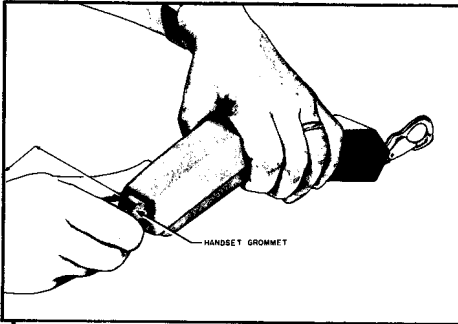
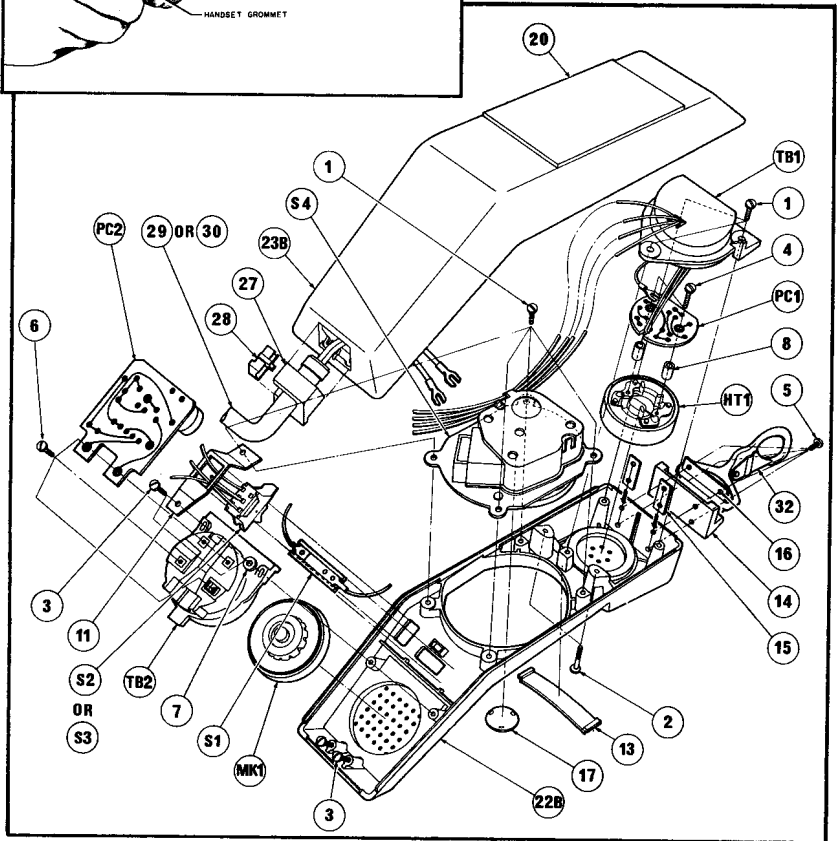
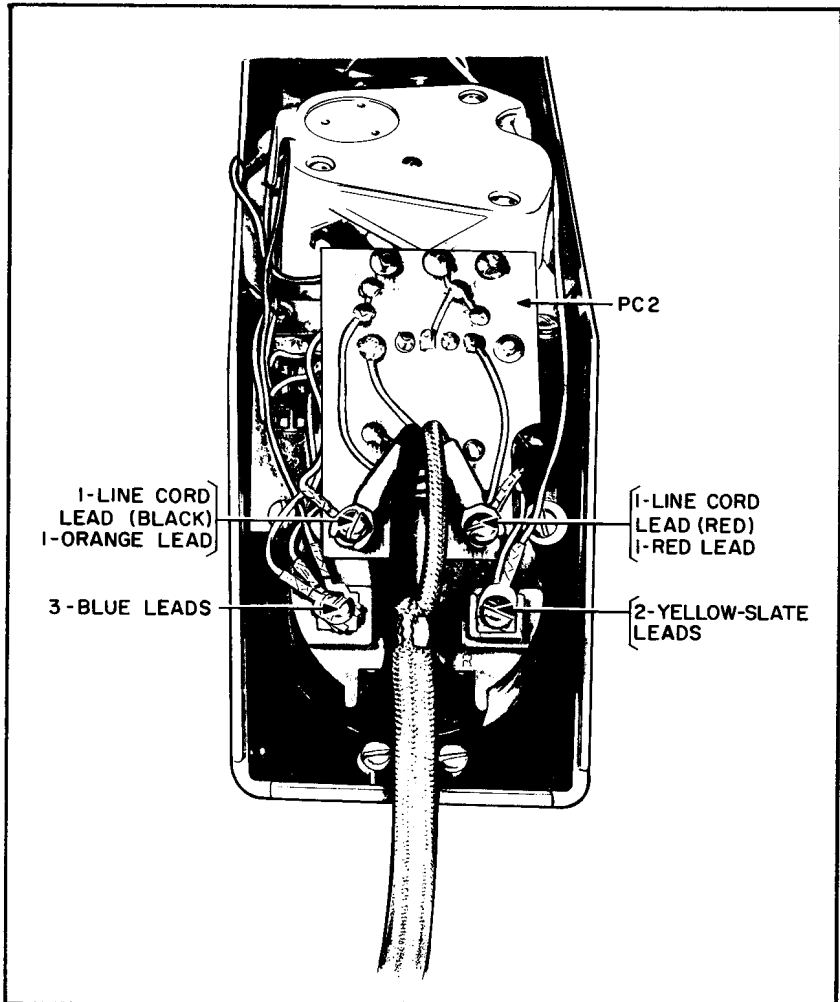

FIGURE 8. Removal of Handset Grommet
FIGURE 9. QSE4 Type Handsets—Assembly of Parts
FIGURE 10. QSE4 Type handset—Cover Removed—Showing Connection of Line Cord and Assembly of PC2 (P0500416) For Conversion Purposes
4.02 Disassembly of handset (see Figures 8 and 9 foldouts) (circled numbers refer to Figure 9 foldout):
a. To remove the card retainer window (13), insert the tip of a 16750 L3 releaser (a paper clip may be used) into the small slotted hole at the edge of the window. Ensure that the tip does not enter the hole by more than one-eighth of an inch, as an underlying screw may hinder the lateral motion of the releaser. Apply a slight lateral pressure to the handle of the releaser. The housing projection provides a fulcrum and this will bow the window upward so that its edges may be grasped with the fingertips of the other hand to spring it out.
b. Remove the handset line cord grommet (27) and (28), by turning the handset face down and pushing the cord into the grommet to release the pressure on the inside of the grommet, then exerting a lateral pressure toward the rocker switch and an upward pressure (while retaining the lateral pressure) until the grommet comes out of the housing (see Figure 8). This grommet is in two pieces.
c. Once the grommet has been withdrawn, two screws (3) are exposed. Loosen these two screws by about three-sixteenths of an inch only, as it is not desirable or necessary to remove them.
d. Free (do not remove) the two captive screws (2) in the card retainer well. Loosen the receiver end, then slide the smooth (back) half of the handset housing back to release this section from the slotted screw holes.
c. Remove the four mounting screws (1) and loosen rocker switch.
- b. Disconnect and replace the line cord, ensuring that the cord is properly dressed in the housing (see Figure 10 foldout).
- b. Remove the four screws (5) and remove the two hook plate retainers (15) and the hookstop (14).
e. Slide the grommet (27) and (28) into the rectangular hole in the end of the handset housing, with the side ribs of the grommet sliding into place on the inside face of the cover. Then pull the line cord to ensure that the grommet is securely in place.
4.10 To convert QSE4A Type to QSE4B Type (see Figures 9 and 10 Foldouts):
- b. Remove the two screws (6) which fasten the line cord leads and the red and orange leads to the transmitter cup terminals. Fold the red and orange leads to the sides of the handset.
- c. Remove slate-red lead from under dial plate screw (1), the white lead connected to terminal C of PC2, the yellow-slate lead from under terminal R on the transmitter cup (TB) and the red and blue leads from (TB2) to (S3).
- f. Carefully place new PC2 (P0500416) into position and ensure that the yellow-slate lead is dressed between the transformer on PC2 and the transmitter cup (TB) and that the transformer bobbin rests on the raised portion of the instrument section housing between the dial and pushbutton (S1). The bracket of the transformer should now be located over the pushbutton.
- h. Insert the two screws (6) through the mounting holes in PC2 and into the terminal screw holes in the transmitter cup.
- i. Ensure that the line cord is passed through the cord hole in the handset back cover (23).
- j. Connect the red lead, which was moved to one side of the handset in paragraph b. above, and the red lead of the line cord, to the terminal immediately above terminal "R" on the transmitter cup (see Figure 10). Tighten this connection.
k. Connect the orange lead which was moved to one side of the handset in paragraph b. above, and the black line cord lead to the other PC2 mounting terminal (rocker switch side) and tighten the mounting screw (see Figure 10).
l. Dress leads and line cord as shown in Figure 10.